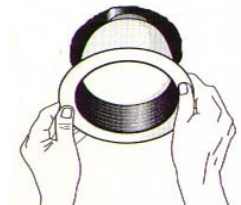

Figure 5
4. Squeeze the 2 ends of each spring towards Led Assembly wall and engage the two springs into the plaster frame opening in the housing. Slide Led Assembly up and fully seat against ceiling surface. (see **Figure 5**). For lensed wall wash products (LW), install Led assembly by aligning angled internal lens towards wall, the low point of lens should be farthest away from wall you are lighting.